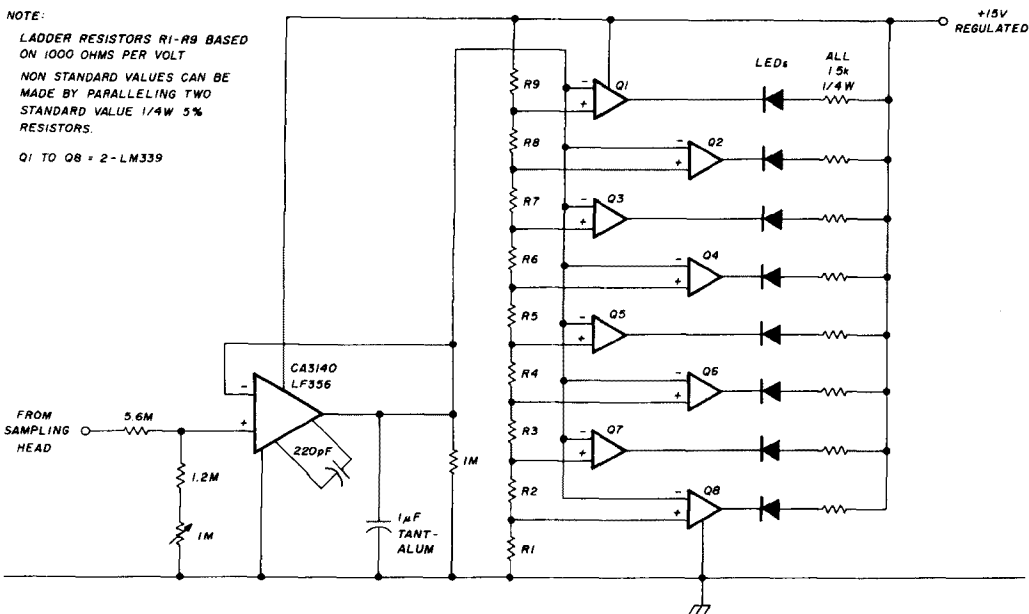

fig. 6. Eight-level indicator.
A useful and practical extension is to use a multiplicity of comparators, whose inverting inputs are fed in parallel by the buffer and whose noninverting inputs are set at different dc levels, each dc level corresponding to a specific rf output power level. Fig. 6 gives the schematic of such an arrangement suitable for eight levels. The resistive ladder (R1 to R9) is calculated on the basis of 1000 ohms per volt. In most cases it will be necessary to parallel two standard 5-percent resistor values to obtain the (usually odd!) values required by each "rung" of the ladder. The appendix details the method of calculating resistor values.
5. The resistance required between ground and the noninvert input of $Q1$ is given by the formula $E_{trig} Q1 \times 1000$. This resistor is shown in fig. 6 as R_1 . If the resistance value is not within 2 percent of a standard resistor value, two resistors will have to be paralleled to get the correct value.